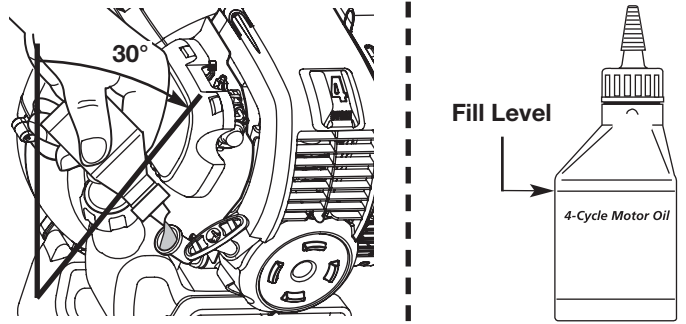

Fig. 22
4. Tilt the unit backwards 30° (Fig. 22).
- b Use the bottle and spout saved from initial use to measure the correct amount of oil. The top of the label on the bottle measures approximately 3.04 ounces (90 ml) (Fig. 22). Check the level. See *Checking the Oil Level*. If the level is low, add a small amount of oil and recheck. Do not overfill (Fig. 22).